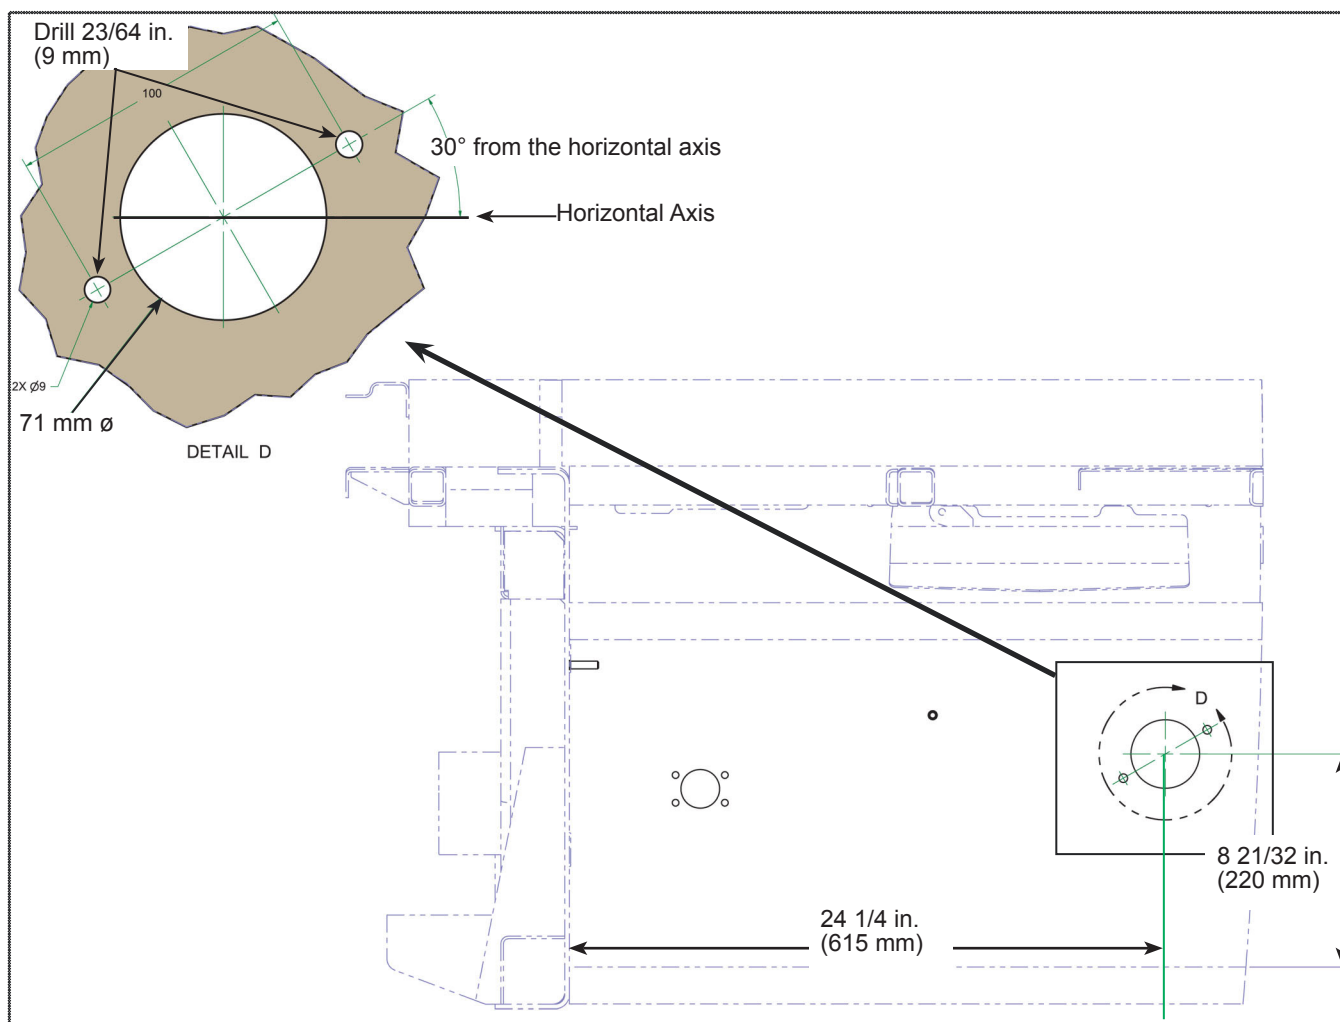

Figure 3 - Dimensions for the New Hole and Locations of the Attachment Holes
- 1.6. Punch a 2.8 in. (71mm) hole between the power distribution box and the voltage regulator. Use of a knock out punch is recommended to punch the hole. See Figure 3 for the center position of the hole.
- 1.7. Drill two holes at 30 degrees from the horizontal axis of the 2.8 in. (71 mm) hole, using the new battery cut-off switch (N55066-01) as a drilling template. See Figure 3.
Position of the new disconnect switch must be accurate with the dimension described in Figure 3. Non-respect of the switch position may cause a problem with the installation of cable N66236 between the disconnect switch and the power distribution box.